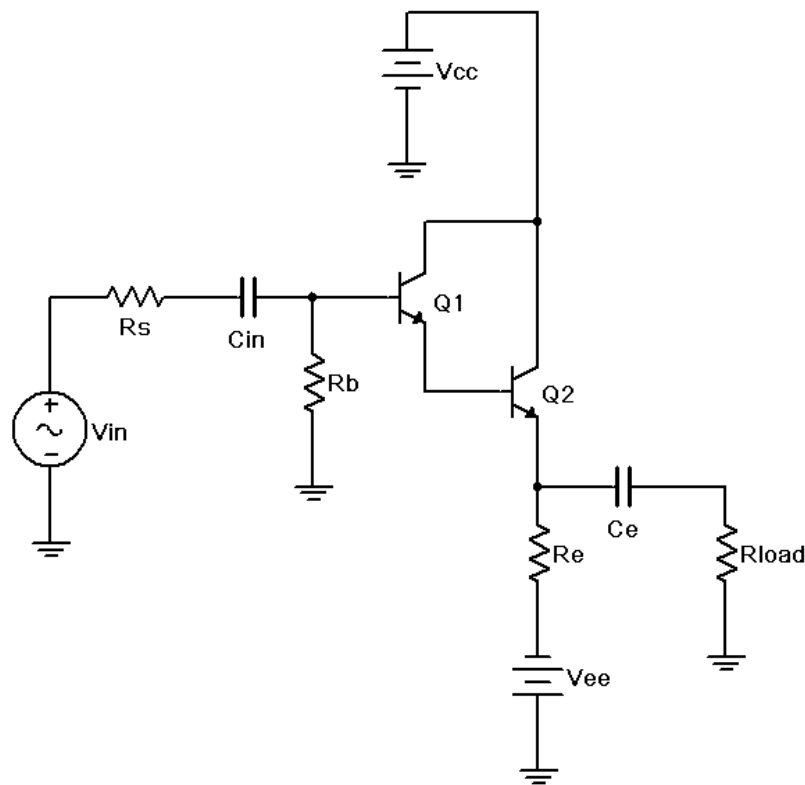

Figure 1
1. Consider the circuit of Figure 1 using $V_{cc} = 5$ volts, $V_{ee} = -12$ volts, $R_s = 22$ k Ω , $R_b = 470$ k Ω , $R_e = 1$ k Ω , $R_{load} = 220$ Ω , $C_{in} = 10$ μ F and $C_e = 470$ μ F. Using the approximation of a negligible DC base voltage, determine the DC collector current and r'_e , and record these in Table 1. Using the r'_e , calculate the expected Z_{in} , $Z_{in(base)}$, Z_{out} and A_v . Record these in Table 2. If a transistor curve tracer or beta checker is not available to get an approximate value of beta for the transistors, estimate the pair at 10,000.
2. Build the circuit of Figure 1 using $V_{cc} = 5$ volts, $V_{ee} = -12$ volts, $R_s = 22$ k Ω , $R_b = 470$ k Ω , $R_e = 1$ k Ω , $R_{load} = 220$ Ω , $C_{in} = 10$ μ F and $C_e = 470$ μ F. Disconnect the signal source and check the DC transistor voltages to ensure that the circuit is biased correctly. (Note: The base should be close to zero while the emitter will be two V_{BE} drops less, or about -1.4 VDC.)